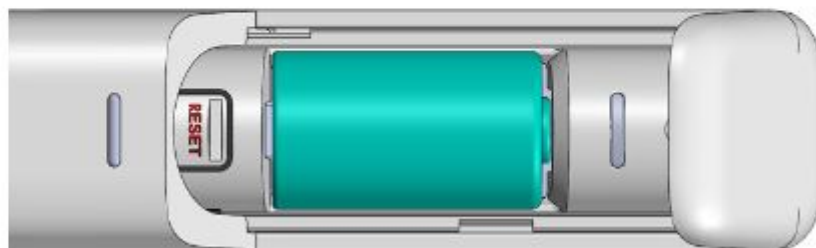

Figure 4
3. Depress the small reset release button while continuing to slide the battery cover until you expose the red reset text. You may need to use a small screwdriver or paper clip to press the release button as shown in Figure 4.